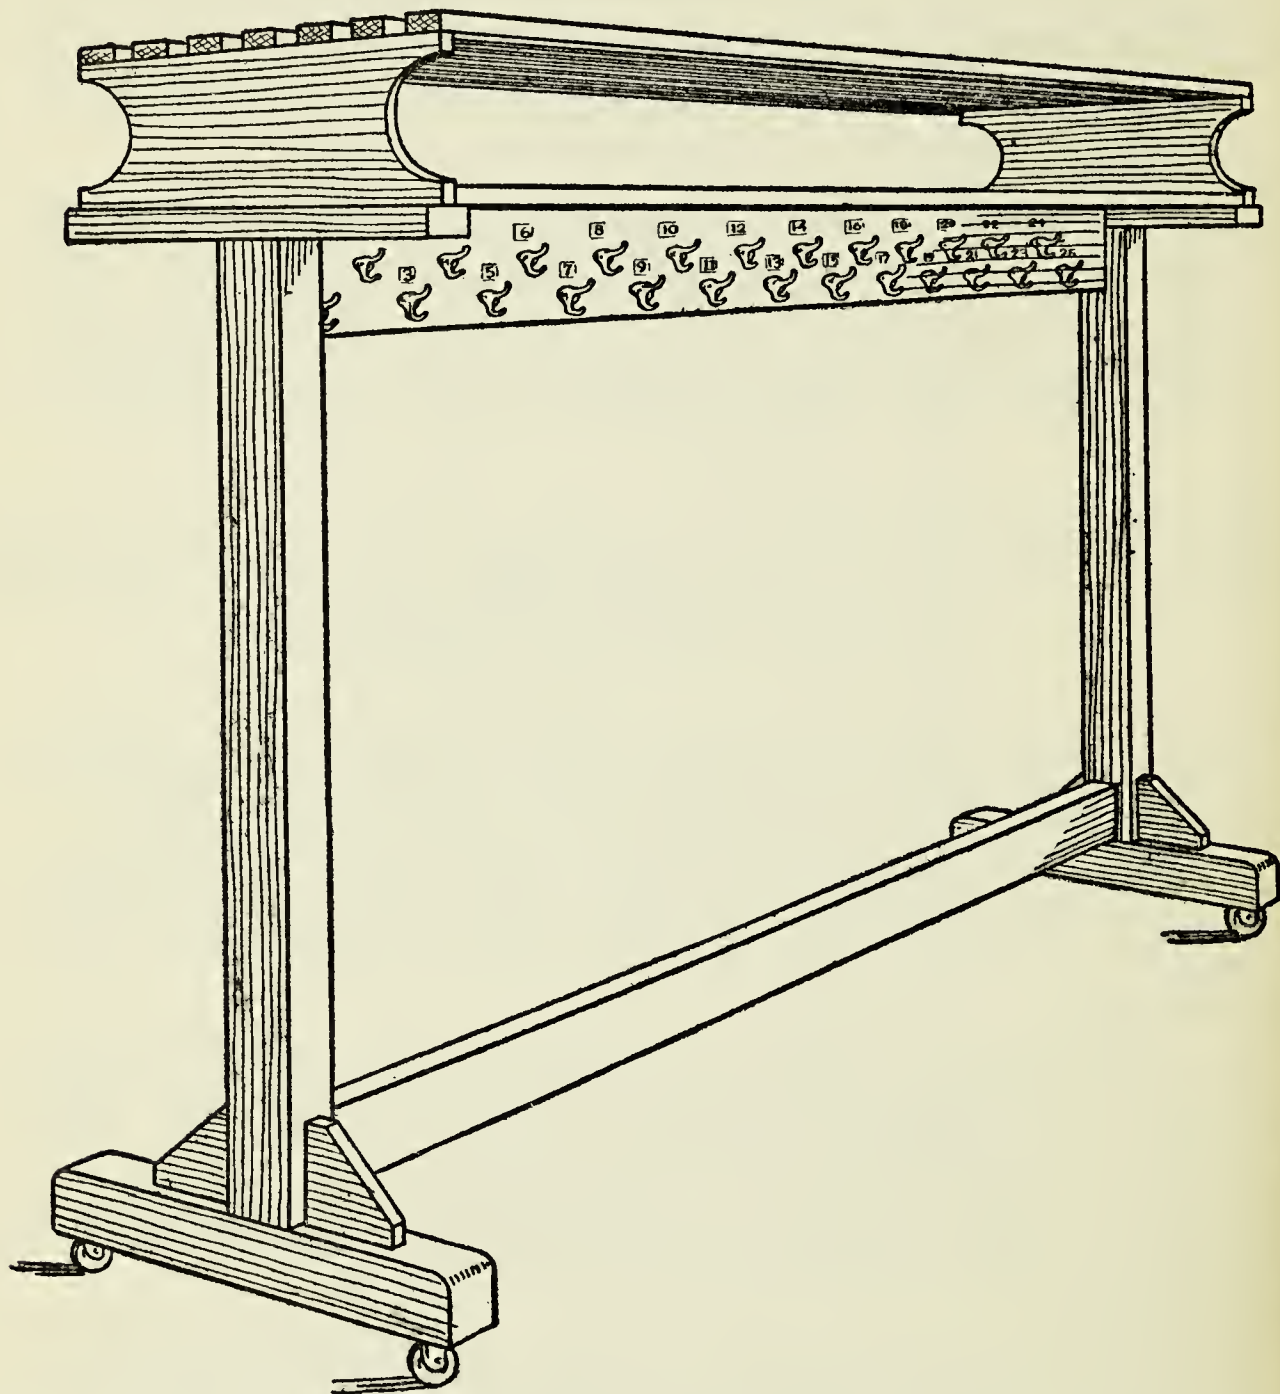

FIG. 336. THIS PORTABLE RACK HAS CAPACITY FOR FIFTY COATS AND HATS AND IS A GOOD TYPE OF RACK FOR A COAT-ROOM
The coat-and-hat-rack shown in Figure 336 is used, in addition to wall-racks, in most checking-rooms of any size. It is usually stood in the center of the room. It is particularly adapted for use in the
The Hat-racks have 1-by-2-inch bars, the lower ones (H, Fig. 337) supported on top plates D, the upper ones (I, Fig. 337) on two end brackets (G). Cut the brackets of the shape and size shown, out of a $\frac{7}{8}$ -inch board. Notice by Figure 336 that the lower bars fit between brackets G. Space the bars as shown and nail them in place.
The Casters should be 2 inches in diameter and ball-bearing. Screw them to runner blocks B near the ends (Fig. 336).
Check Numbers can be purchased of metal or cardboard for numbering the coat hooks. Tack them directly above the coat hooks as shown in Figure 336.